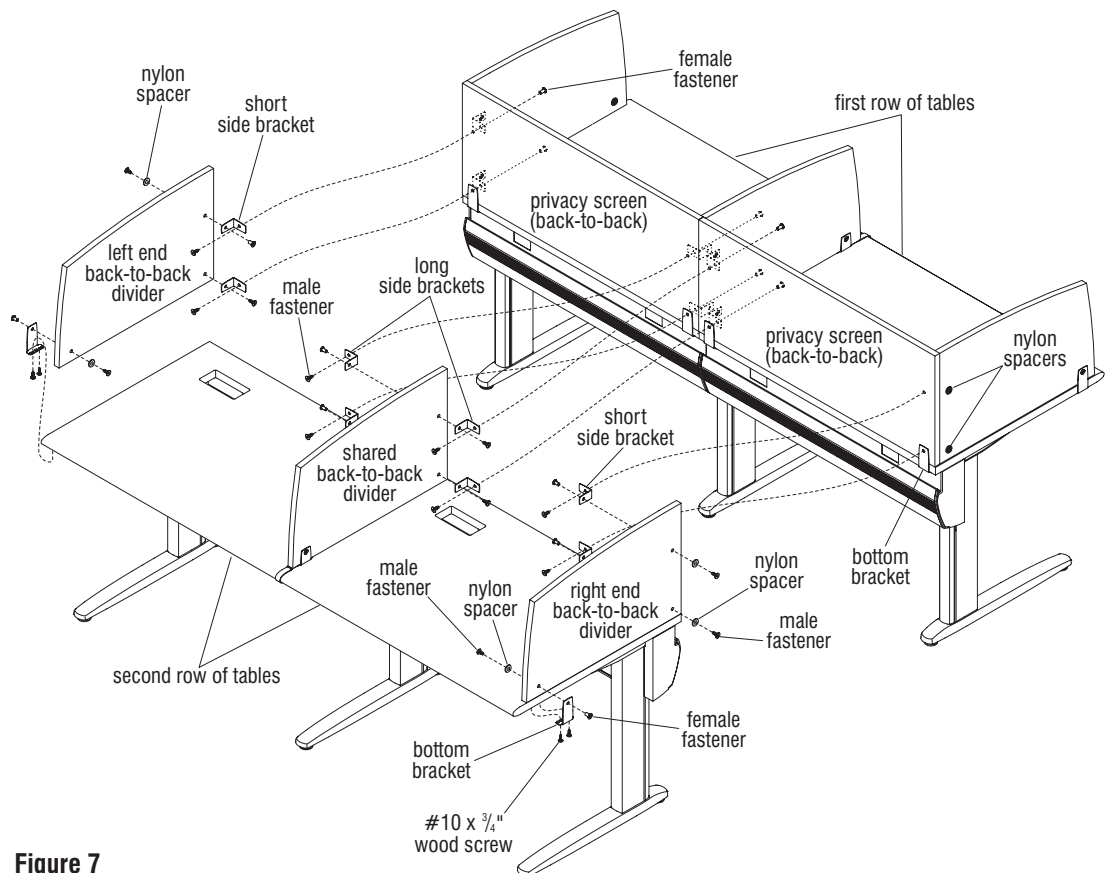

Figure 7
4. From the privacy screens of the first row of tables, remove all male/female fasteners (and nylon spacers) that hold the divider panels to the privacy screens. Slide the second row of tables up against the back of the first row of tables until the second row meets the bottom brackets of the first set (Figure 7).
5. On the second row of tables, attach the shared back-to-back divider(s) to the table tops at the front, underside using two $\frac{1}{4}$ -20 x $\frac{5}{8}$ " machine screws into the threaded inserts under the tables (Figure 7).
6. Next, determine the location of left- and right-end dividers. Both divider types are assembled from the same parts. Attach a bottom bracket to the appropriate side at the front, outside of each divider using male/female fasteners and nylon spacers as illustrated (Figure 7).
7. Position the end dividers onto the tops so that the rear edge of the divider meets the back-to-back privacy screen. At the appropriate mounting location, secure the bottom bracket of the right- and left-end dividers to the underside of the worksurfaces using the short T-25 driver bit to thread in two #10 x $\frac{3}{4}$ " wood screws (Figure 7).
8. On the second row of tables, attach all required short and long side brackets to the rear of the shared and end back-to-back dividers using male/female fasteners and nylon spacers to the outside as required (Figure 7).
9. Secure the dividers of the second table row to the back-to-back privacy screens of the first set of tables with male/female fasteners as illustrated. When securing the privacy screen to the divider, use the larger diameter female part of the male/female fasteners on the inside of the table. This will aid to properly align the divider screen (Figure 7).